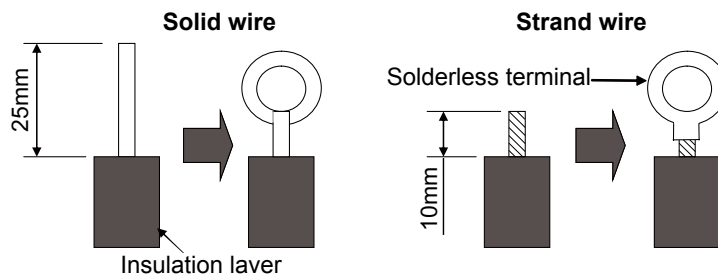

Fig.21
(1). For solid core wiring (Fig.21)
(2). For strand wiring (Fig.21)